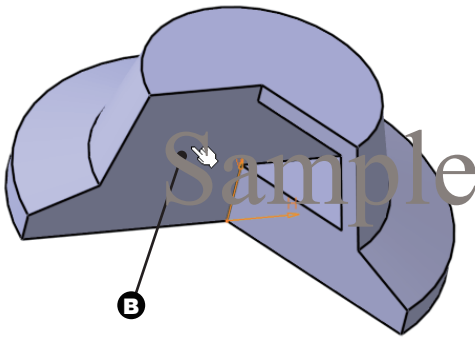

Fig 6-29 The Third Sketch Plane
1. Choose the **Positioned Sketch** button from the **Sketcher** toolbar and select the plane **B** shown in Fig 6-29 as the sketch plane.